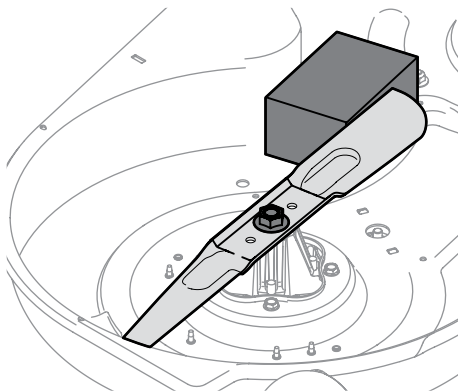

Figure 4-13
2. Place a block of wood between the deck housing baffle and the cutting blade to act as a stabilizer. See Figure 4-13.
3. Remove the hex flange nut that secures the blade to the spindle assembly. See Figure 4-13.